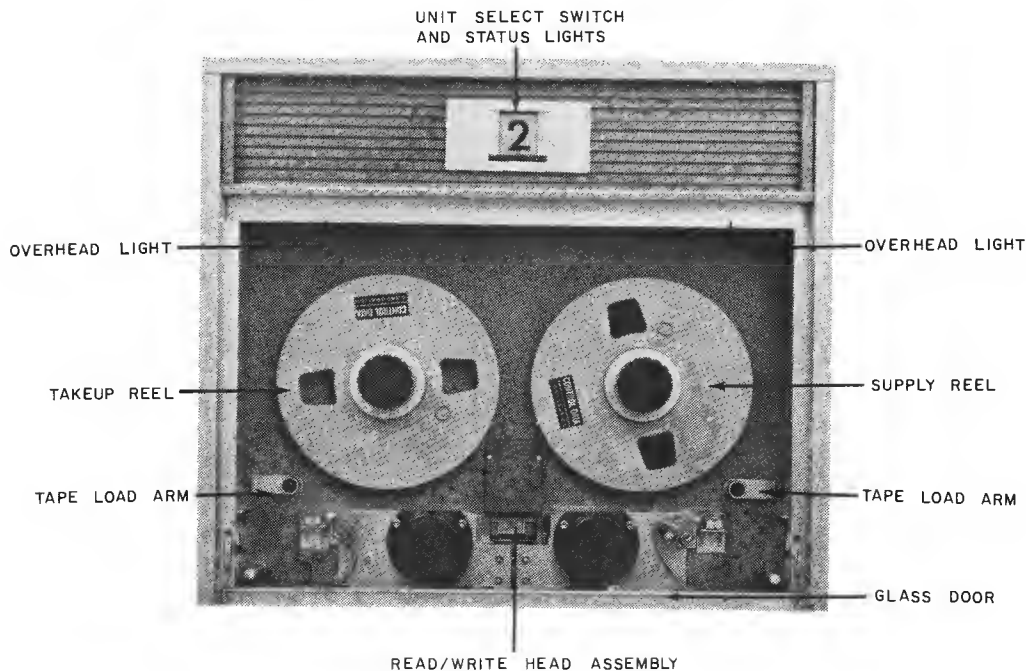

Figure A-4. Tape Load and Unload Mechanics
- 1) Slide front door down to lowest position (Figure A-4).